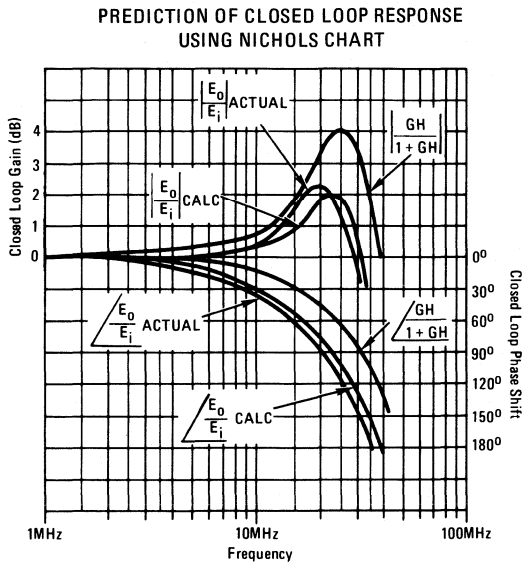

Figure 8
- (4) Transfer these points to semi-log paper and add the pole given by $\omega = \frac{1}{R_f C_f}$ (or $f_p = 32\text{MHz}$ for this case) to obtain the calculated closed-loop response, $(\frac{E_o}{E_i})_{\text{CALC}}$ shown in Figure 8.
- (5) Obtain Bandwidth, Peaking and closed-loop phase margin from the closed-loop response given in Figure 8.